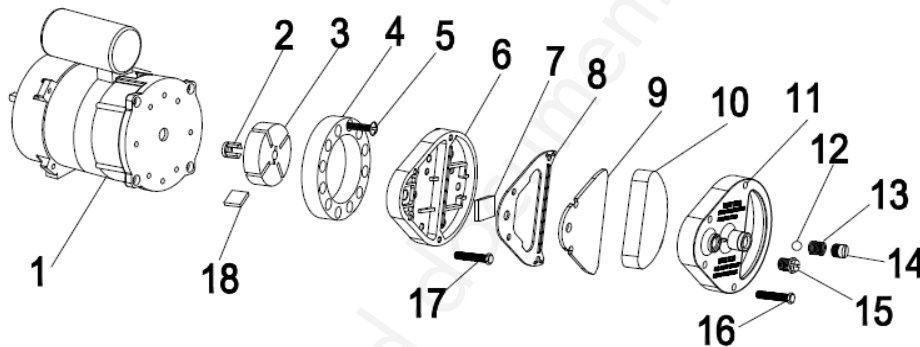

Figure 2
Clean air filters. Remove filter end cover (11), wash air intake filter (10) using a light detergent and dry it thoroughly before reinstalling. Replace air delivery filter (9) once a year (Figure 2).